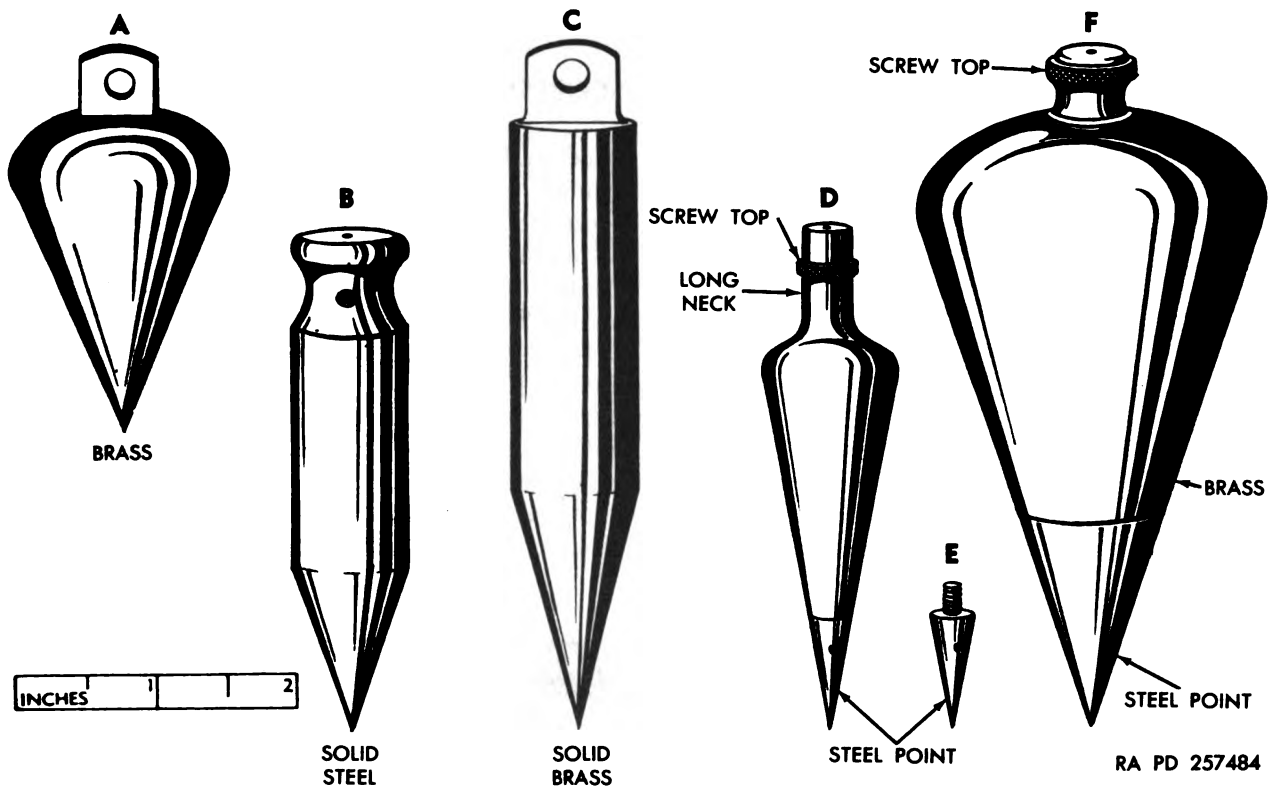

Figure 14. Types of plumb bobs.
17. Purpose of Plumb Bobs (fig. 14)
a. Plumb bobs (fig. 14) are made of solid brass or steel. Most plumb bobs that are made of brass have removable steel points. One end tapers to a point and the other end has a drilled hole or a removable top. A string or a steel tape having a snap hook may be secured in the hole or attached to the top so that when the plumb bob is suspended the point falls directly under the centerline of the string or the tape. Plumb bobs are available in 5-, 6-, 8-, 9½-, 16-, 18-, and 32-ounce sizes.
b. The brass plumb bob shown in A, figure 14, is cone-shaped, weighs 6 ounces, and is used with a steel tape or string.
c. B, figure 14, is a solid steel cylindrical bob, weighs 9 ounces, and is used with a string only.
d. The solid brass plumb bob (C, fig. 14) weighs 18 ounces and is used with a string or a tape.
e. The long neck brass bob (D, fig. 14) has a removable steel point (E) and a knurled removable screw top.
f. The plumb bob shown in F, figure 14, is made of brass with a steel point. It has a knurled removable screw top. A string is attached to this bob and to the bob shown in D, figure 14 through the hole in the top.